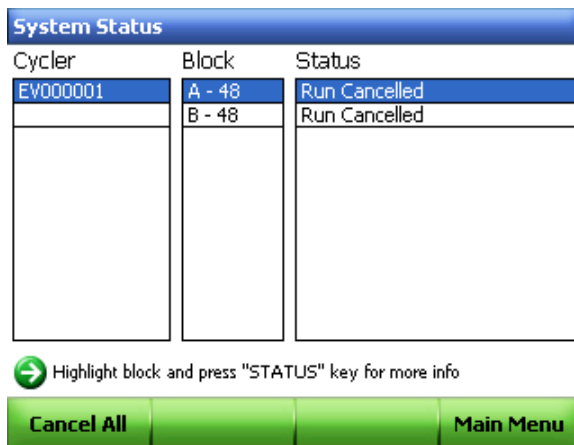

Figure 67. The System Status screen shows multiple cancelled runs.
2. Select **Cancel Run** to cancel one block, or **Cancel All** to cancel the run on multiple blocks (Figure 67).